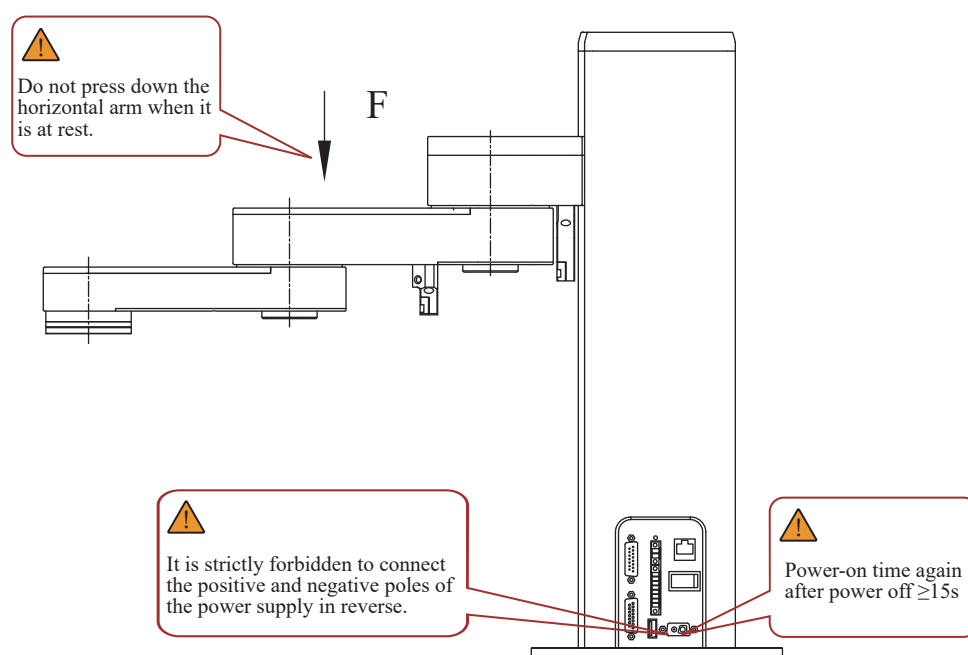

Figure 7
4. Power cable hot-plugging forbidden. Warning when the positive and negative poles of the power supply are reversed (as shown in Figure 7).
5. Do not press down the horizontal arm when the power is off (as shown in Figure 7).